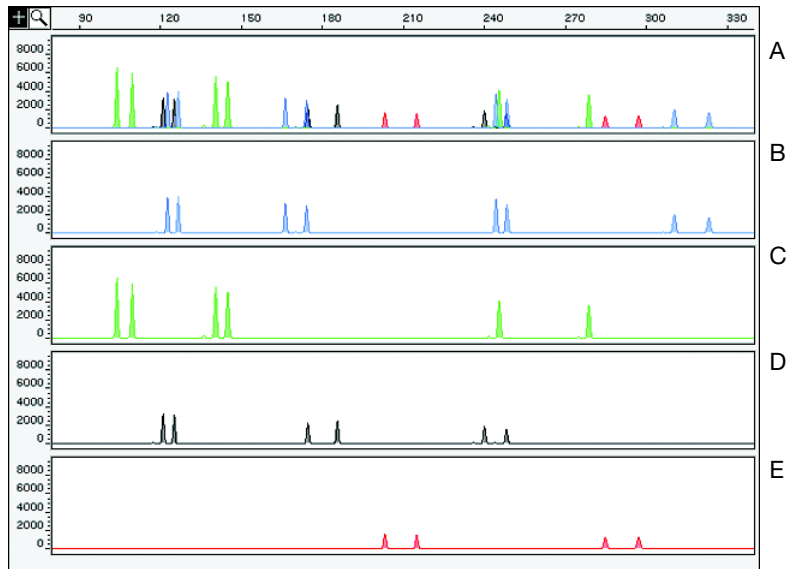

Figure 5-13 Quick Tile Off and Quick Tile On options
- The Quick Tile Off format provides the option of displaying results either for multiple colors within a single lane or injection or from multiple lanes or injections in the same panel, (*i.e.*, the results are overlaid), as shown in panel 1 of Figure 5-13.
- The Quick Tile On format displays each color of each lane or injection separately, as shown in panels 2–5 of Figure 5-13.
Panel A in Figure 5-13 is an example of one sample displayed with Quick Tile Off. Panels B–F are examples of the same sample file with Quick Tile On using the AmpF ℓ STR Control DNA 007 analyzed on the ABI PRISM 310 Genetic Analyzer.